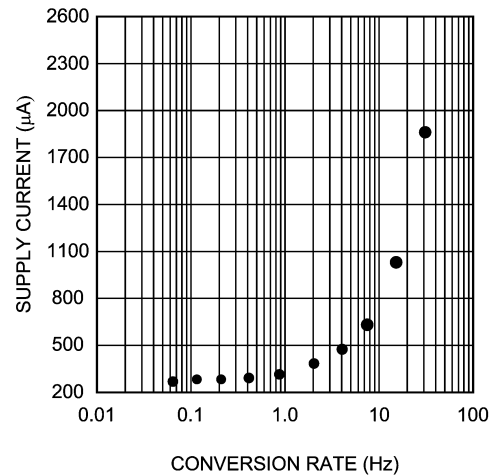

FIGURE 3. Supply Current vs Conversion Rate
The LM64 takes approximately 31.25 ms to convert the Local Temperature (LT), Remote Temperature (RT), and to update all of its registers. The Conversion Rate may be modified using the Conversion Rate Register. When the conversion rate is modified a delay is inserted between conversions, the actual conversion time remains at 31.25 ms. Different Conversion Rates will cause the LM64 to draw different amounts of supply current as shown in Figure 3.